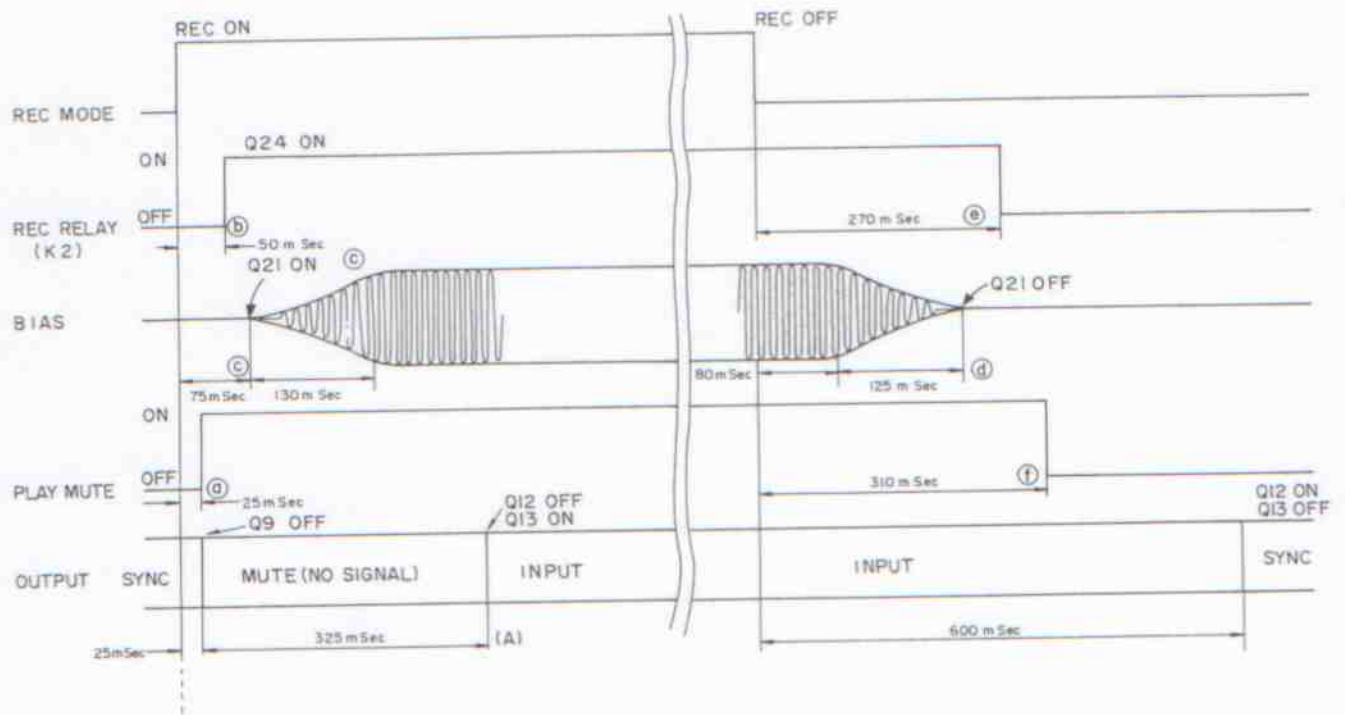

Fig. 5-18.
2. Since Q15 base bias falls as the MUTE terminal goes L, Q15 is cut off and the voltage at junction R68 and C31 rises for the time period determined by R70/R68 and C31 time constant. Since voltage is applied to the base of Q9, Q9 is turned on after the time constant time (approx. 25 msec), and the sync reproduction signal is shorted at ground through the emitter-collector path of Q9, thus disconnecting sync output from the OUTPUT terminals. Refer to Fig. 5-18 (a).
The time required for this switching has been adjusted to approx. 50 msec through the time constant circuits including C38, R112, C36, R110, etc. Refer to Fig. 5-18(b).
7. In this way, switching operations for both Q12 and Q13 are made under influence of four time constants, each relating to capacitors C36, C38, C39 & C30, and C36, C38, C39 & C32 (as stated in 4, 5 and 6 above). Accordingly, their total time required for switching operation becomes considerably long as shown in Fig. 5-18(A).
8. When Q18 is cut off, Q19 is turned on until C35 is charged; thereby, discharging the residual charges stored in C37. Then C37 is recharged through R93, R94, R95 and, when recharging is completed, Q20 is turned on. After this, charging to C45 begins through R101, R102 and the charged voltage reaches approx. 0.6 V, which causes Q21 to turn on to actuate the bias oscillator amp. In this way, the operation of bias amp is influenced by the corresponding C35, C37, and C45 time constants, causing the bias oscillator to start functioning at approx. 75 msec, after the punch-in operation has been set, to gradually increase the bias amplitude as shown in Fig. 5-18(c). Accordingly, the amplitude of the signal being recorded on the tape is also gradually changed to the steady state, thus eliminating switching noises.
10. The charges stored in C37 is discharged through D16, R94, Q18 (emitter-collector path) as Q18 is turned on. Then Q20 is cut off, followed by Q21 cutting off. The time required to cut Q21 off depends upon the sum of the discharging time constants of C37 and C45, and is set to approx. 205 msec, as shown in Fig. 5-18(d). As the result, the bias oscillator voltage amplitude of the bias amplifier is gradually attenuated as illustrated, and the amplitude of signals being recorded is also attenuated gradually.
11. When Q22 is turned on, the charges stored in C38 is discharged through R107 and Q22 (emitter-collector path), cutting off Q24 as the discharging potential is decreased. Then the REC relay is switched in to the SYNC side. The time required to actuate the REC relay is set to approx. 270 msec, completely after the bias oscillator voltage amplitude has been attenuated to zero. Refer to Fig. 5-18(e).
On the other hand, MUTE terminal 19 goes H immediately after the punch-out operation, but Q15 base bias voltage is unable to rise because, at this time, output pin 3 of U5 (1, 2, 3) is being set to L. Therefore, Q15 is maintained cut off and Q9 is also held in its conductive state. Next, when Q25 is turned on, input pin 5 of U5 (4, 5, 6) goes H and output pin 4 and input pin 1 of U5 (1, 2, 3) go L, causing output pin 3 to go H. Accordingly, Q15 is turned on, and this makes Q9 cut off, thus releasing the short-out circuit for SYNC reproduction signals. In other words, Q9 can not be turned off until the REC relay completes switching in to the SYNC position. Thus no switching noise is developed in the monitor output circuit. Refer to Fig. 5-18 (f).